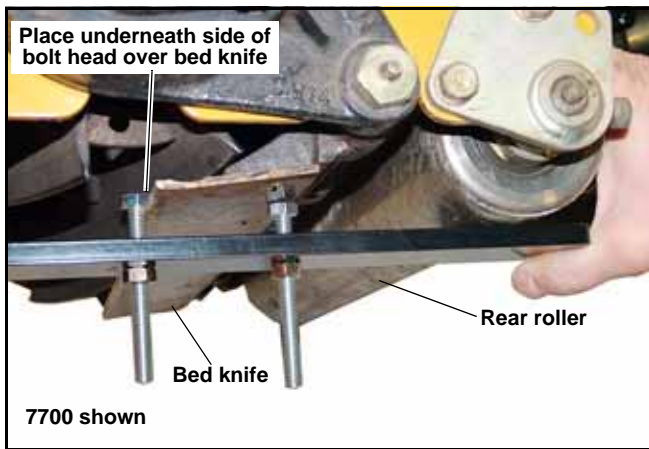

Figure 4-54
6. Temporarily adjust both ends of the front roller to the cutting height by hooking the underneath side of the front bolt head over the top of the bed knife and adjusting the front roller so that both front and rear rollers touch the HOC bar and the top of the bed knife touches the underneath side of the front bolt head. Figure 4-54